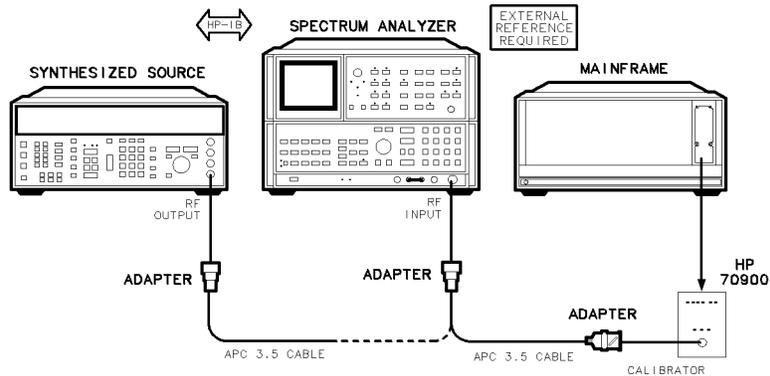

Figure 6-9. Equipment Setup for Adjustment 04. Calibrator Output Frequency
1. Place the HP 70900B local oscillator source on a module extender and connect the equipment as illustrated in Figure 6-9. Connect the synthesized source to the spectrum analyzer. *Do not* connect the external reference to the HP 70900B local oscillator source.